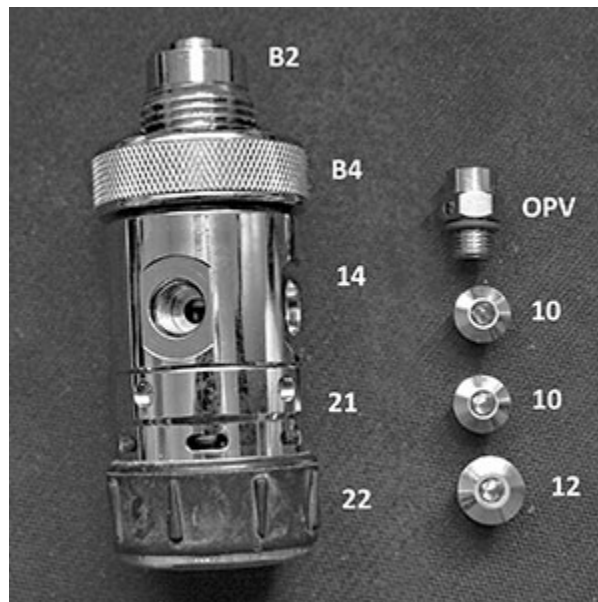

Fig. 4
1. Note the position of all hoses and port plugs (10, 12) with O-rings (11\*, 13\*). Remove the (OPV) - Fig. 4.